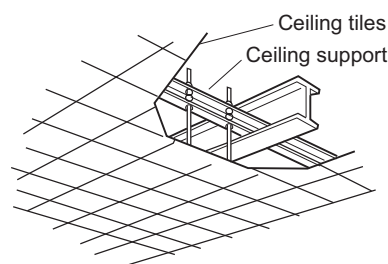

Fig. 2-163
- Use existing ceiling supports or construct a suitable support as shown in Fig. 2-163.